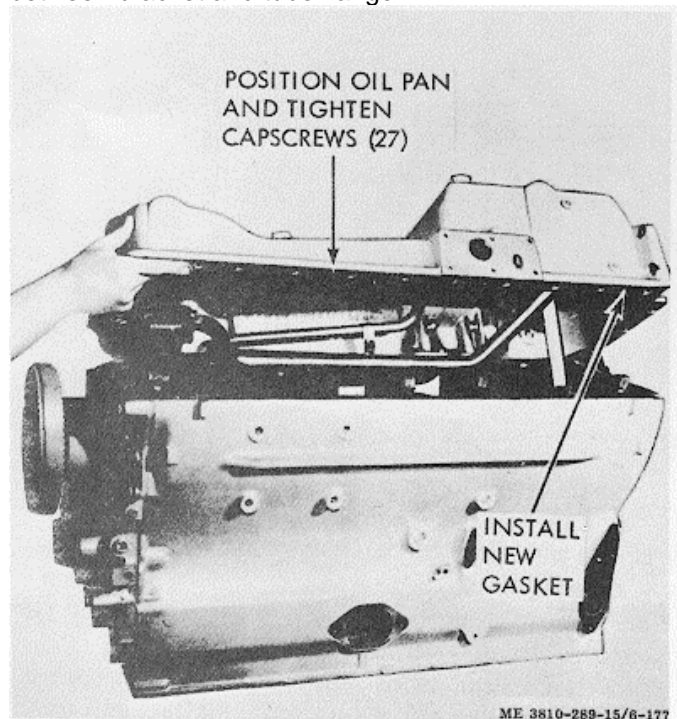

Figure 3-171. Oil pan installation.
(1) Install pipe plugs and drain plugs in oil pan securely. Do not overtighten.
(2) Position (with adhesive) new gasket on oil pan mounting surface. Be sure mating surface is clean of all old gasket material. Check dowels for worn or loose condition.
(3) Position oil pan to block, figure 3-171, and secure with flatwashers, lockwashers and capscrews. Tighten capscrews enough to hold oil pan firmly in place.